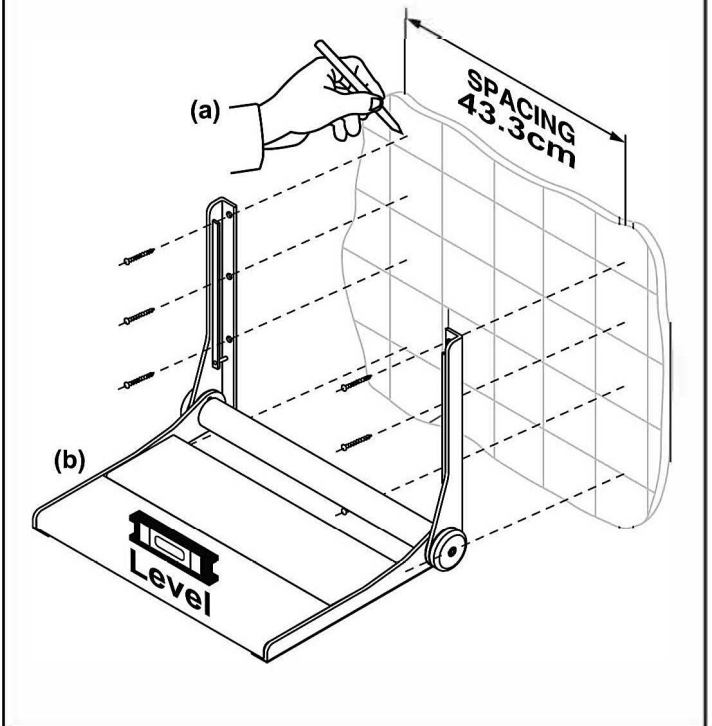

Figure 2.
2. Notch the tile accurately with a center punch as shown in Figure 2. NOTE: A light tap is all that is required for punch to make notch.